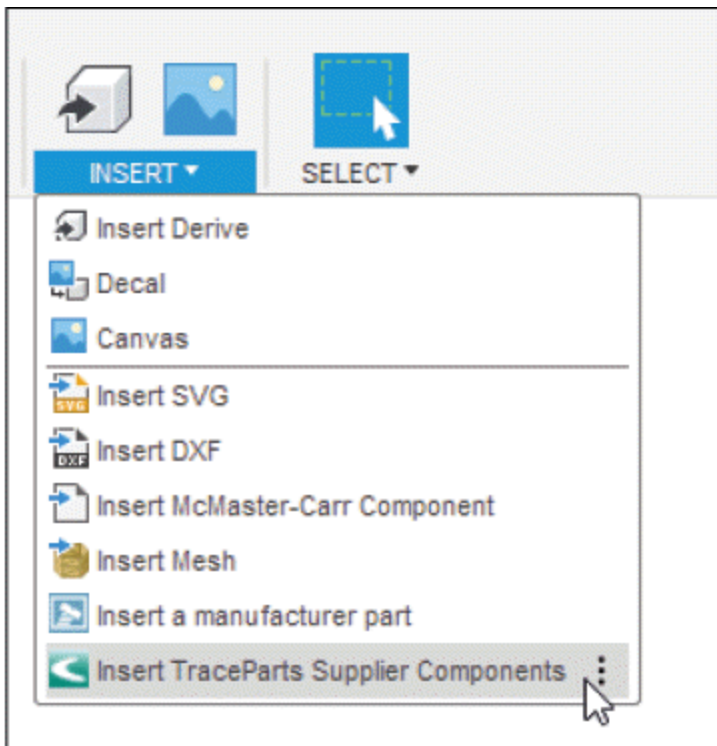
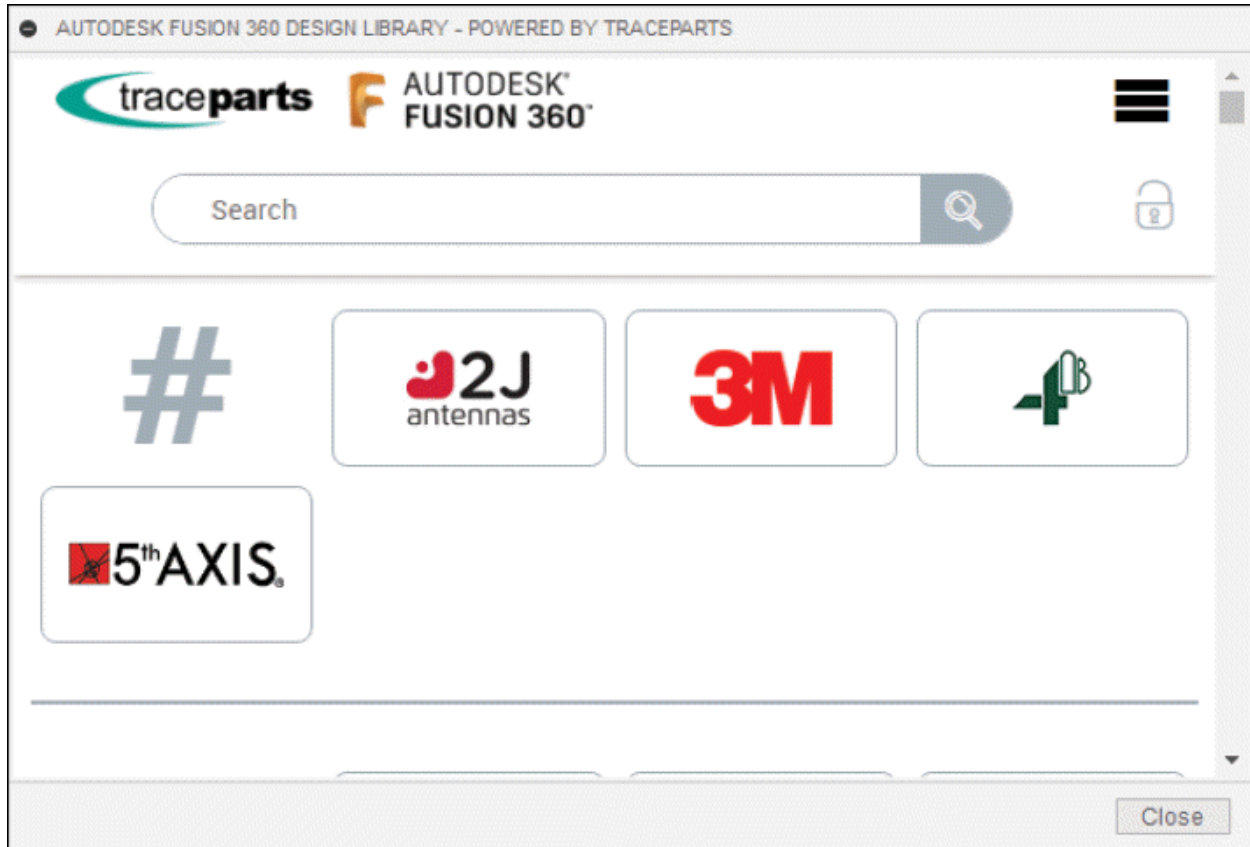

Figure-30. Insert TraceParts Supplier Components tool
Figure-31. AUTODESK FUSION 360 DESIGN LIBRARY window
- Click on the **Insert TraceParts Supplier Components** tool of **INSERT** drop-down from **Toolbar**; refer to Figure-30. The **AUTODESK FUSION 360 DESIGN LIBRARY** window will be displayed; refer to Figure-31.